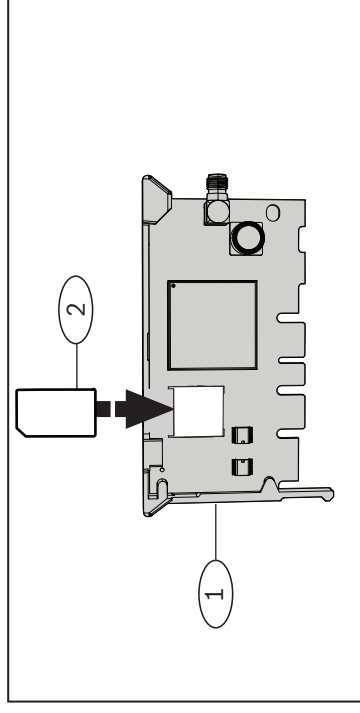

Figure 2.1: Inserting the SIM card
2. Insert the SIM card into the SIM card holder on the module by sliding it into the card holder, verifying that the gold contact side of the SIM card is against the module. Refer to Figure 2.1.